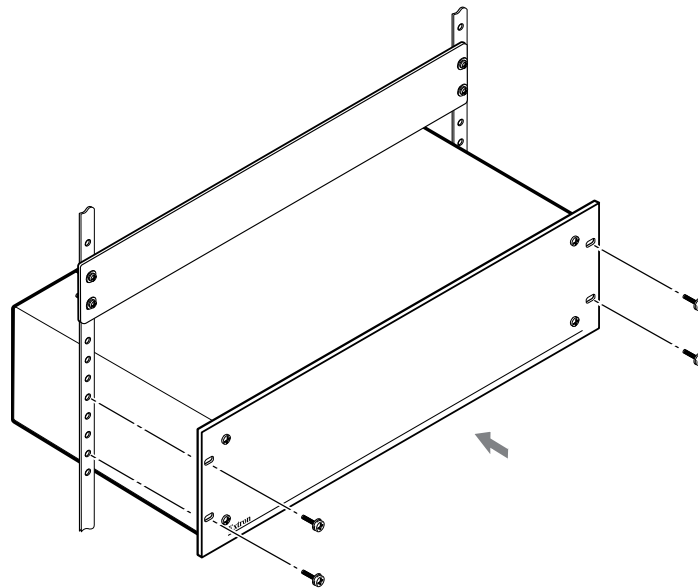

Figure 108. Installing the Switcher in a Rack
1. Insert the unit into the rack, aligning the mounting bracket holes with those in the rack (see figure 108).